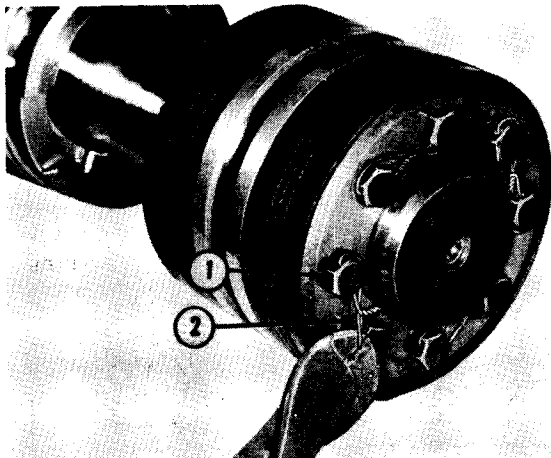

Figure 11-96
Remove the retaining lock wires (2, Fig. 11-96) from the piston screws (1); remove the screws and disassemble the piston.